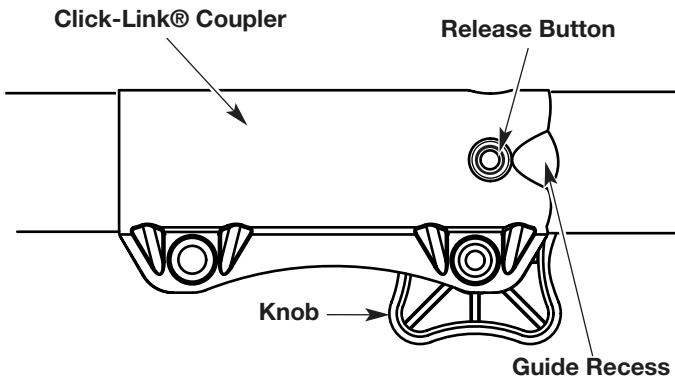

Fig. 8
1. Turn the knob counterclockwise to loosen (Fig. 8).
2. Press and hold the release button (Fig. 8).
1. Turn knob counterclockwise to loosen (Fig. 8).
**NOTE:** Aligning the release button with the guide recess will help installation (Fig. 8).